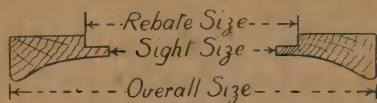
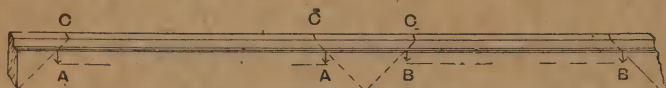

Fig. 21.—The Three "Sizes" of a Frame
Fig. 22.—Marking Piece of Moulding for Cutting-up
A picture frame has three sizes (see Fig. 21)—(1) overall, (2) glass, picture, or rebate size, and (3) the sight size. Determine the picture size, and mark off the length and width on the moulding inside the rebate (see Fig. 22), and, putting the moulding in the mitre-block, cut the mitres at the marks. It will be found that two lengths of moulding will generally make three medium-sized frames, or one fairly large and two small frames. To effect this it will sometimes be necessary
Should the worker wish to dispense with the use of mitre-box or block, space out the measurements between the mitre lines and next to the rebated edge, as shown at A and B (Fig. 22). After marking the mitre lines with the bevel gauge set at 45°, the lines should be projected on the front edge of the moulding as shown at C, so as to indicate the position for the saw cut. The mould-